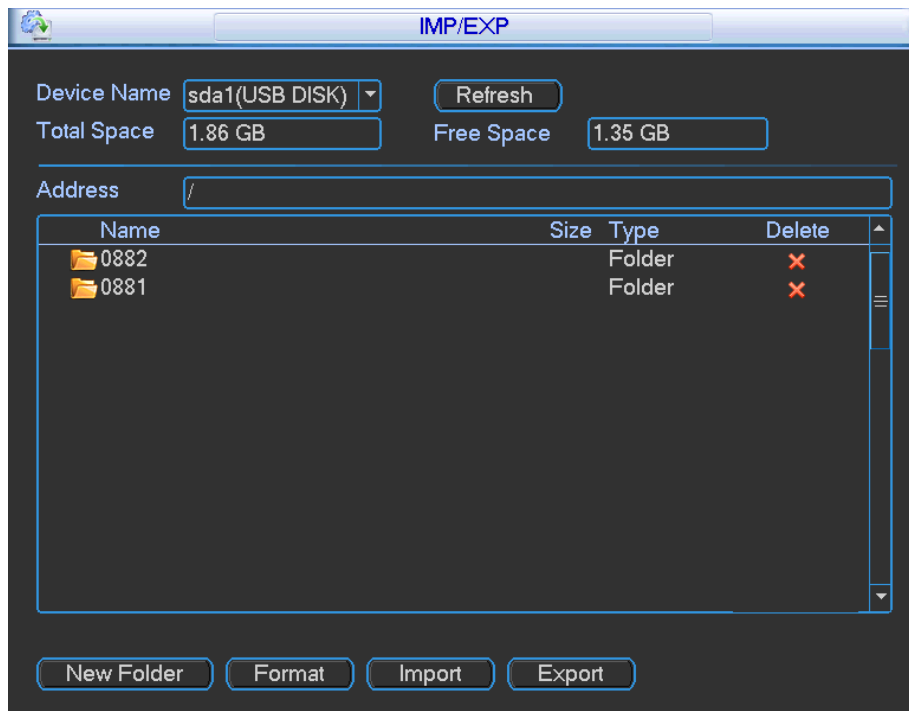

Figure 4-112
- Step 3 Select logs and then click Backup button. Enter Backup interface. See Figure 4-112.